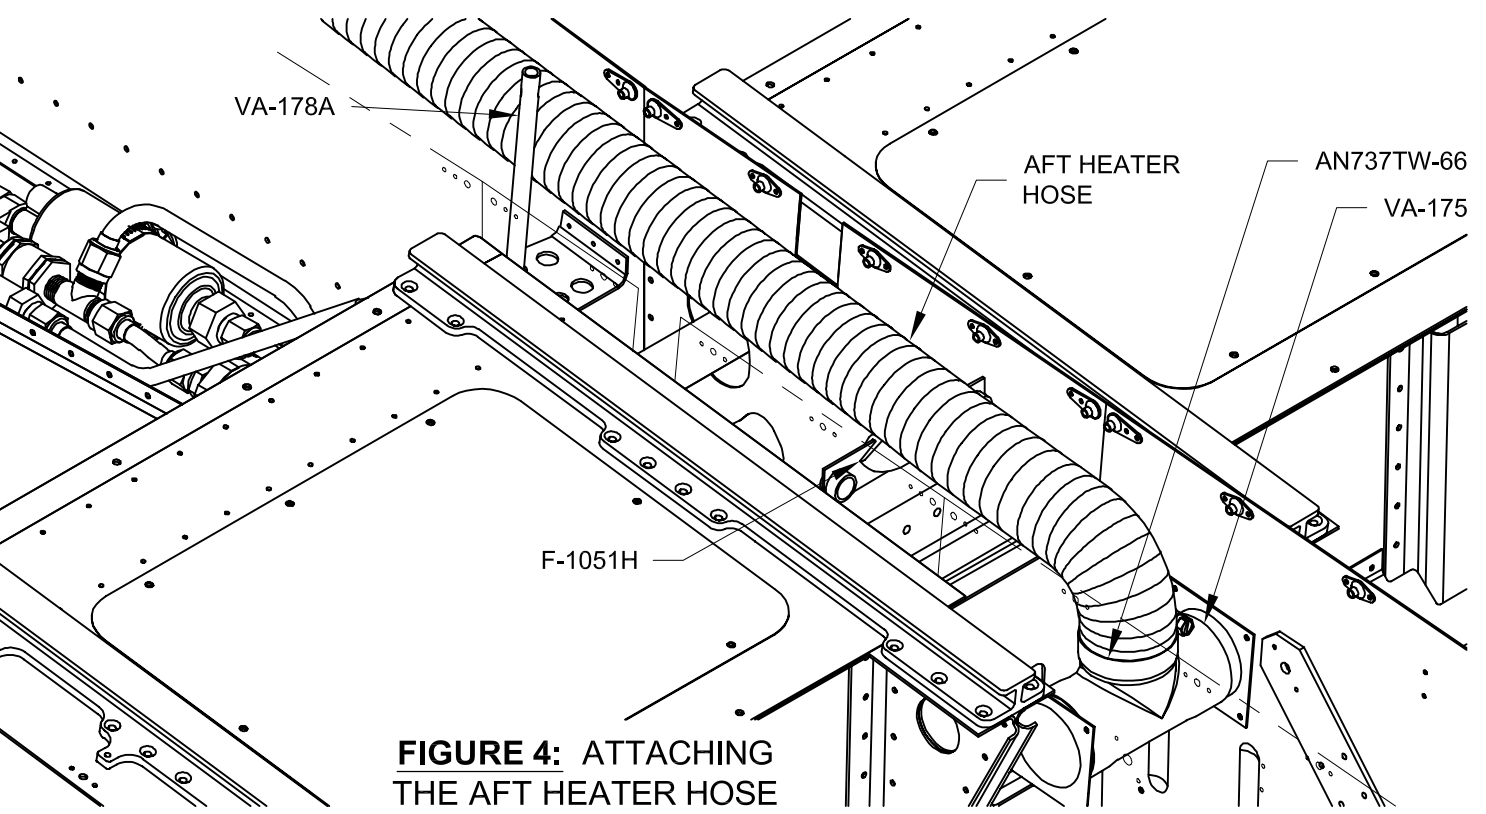

FIGURE 4: ATTACHING THE AFT HEATER HOSE
Step 5: Direct the Aft Heater Hose over the F-1048C-1 Fuel Valve Bracket and to the right of the VA-178A Fuel Handle Shaft as shown in Figure 4. Direct the aft heater hose over the F-1051J SCAT Anti-Chafe, then secure the end to the aft VA-175 Heat Duct Tee using the hose clamp called-out in Figure 4.